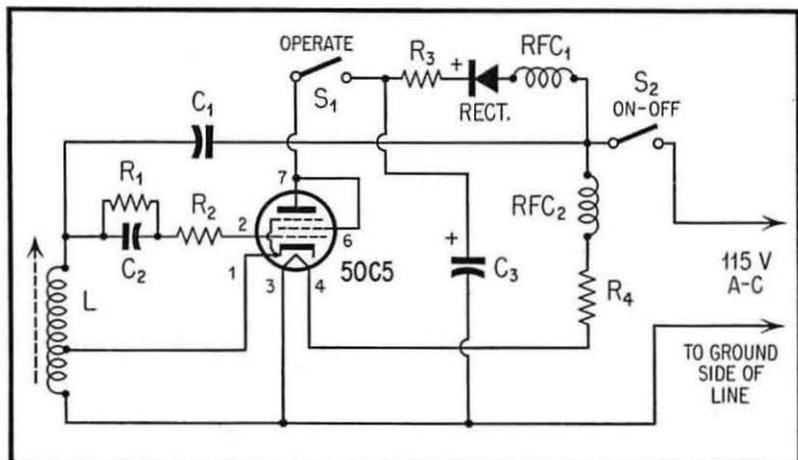

Fig. 2. Transformerless Wired-Radio Transmitter.
**Transformerless Circuit.** See Figure 2. The power transformer is dispensed with in this Hartley oscillator circuit. D-C power for the plate and screen of the triode-connected 50C5 tube is obtained from the selenium rectifier, RECT, operated directly from the a-c power line. Filtration is provided by resistor  $R_3$  and capacitor  $C_3$ . The 50-volt filament of the tube is operated from the line through dropping resistor  $R_4$ .
#### PARTS LIST FOR FIGURE 2